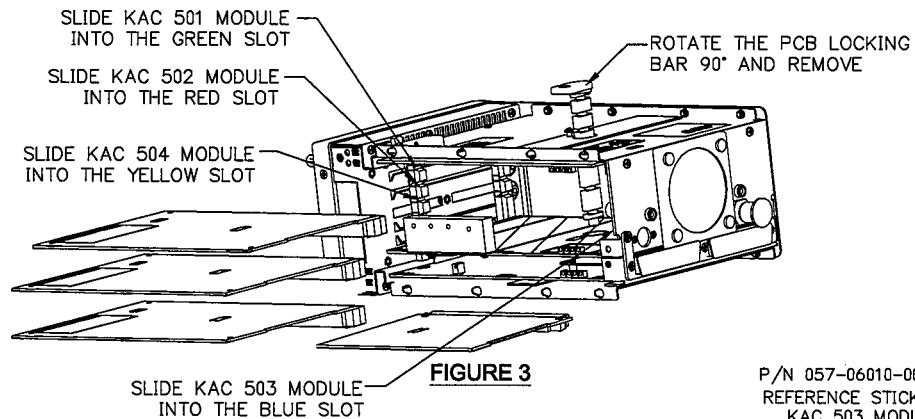

FIGURE 3
- REMOVE THE PCB LOCKING BAR BY TURNING IT 90° COUNTER-CLOCKWISE AS SHOWN IN FIGURE 3.
- INSTALL THE KAC 501 MODULE IN THE TOP SLOT WHICH IS COLOR-CODED GREEN AS SHOWN IN FIGURE 3.
- INSTALL THE KAC 502 MODULE IN THE SECOND SLOT FROM THE TOP WHICH IS COLOR-CODED RED AS SHOWN IN FIGURE 3.
- INSTALL THE KAC 504 MODULE IN THE THIRD SLOT FROM THE TOP WHICH IS COLOR-CODED YELLOW AS SHOWN IN FIGURE 3.
- INSTALL THE KAC 503 MODULE IN THE FOURTH SLOT FROM THE TOP WHICH IS COLOR-CODED BLUE AS SHOWN IN FIGURE 3.